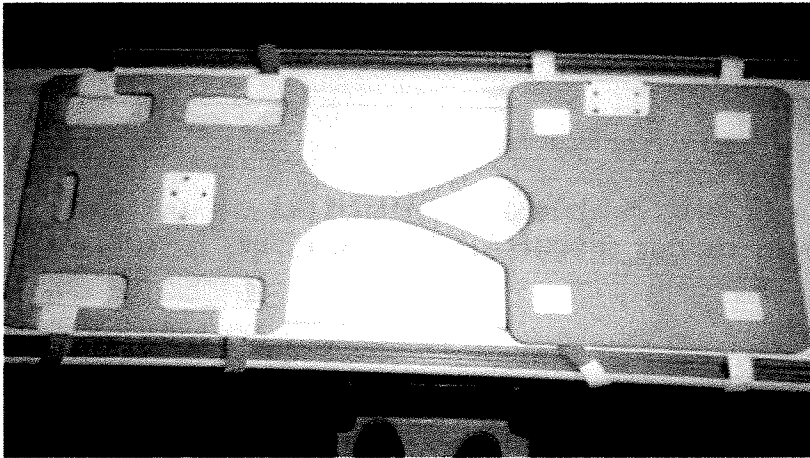

Figure 5: Prone head-first setup prior to loading patient. Bore is to the left and the anterior side of the coil is on the left side.
- 2) After positioning the coil as shown in Figure 5, connect the posterior cable connector to the posterior coil receptacle. Move the coil so that the cable can connect to the corresponding connector port on the MRI scanner. **DO NOT PLUG THE CABLE INTO THE SCANNER.**
- 1) Lay the PROCURE™ coil out flat with the non-patient side down and the anterior end facing the bore (left in Figure 5) Use pillows and patient comfort pads as needed for patient comfort and positioning.